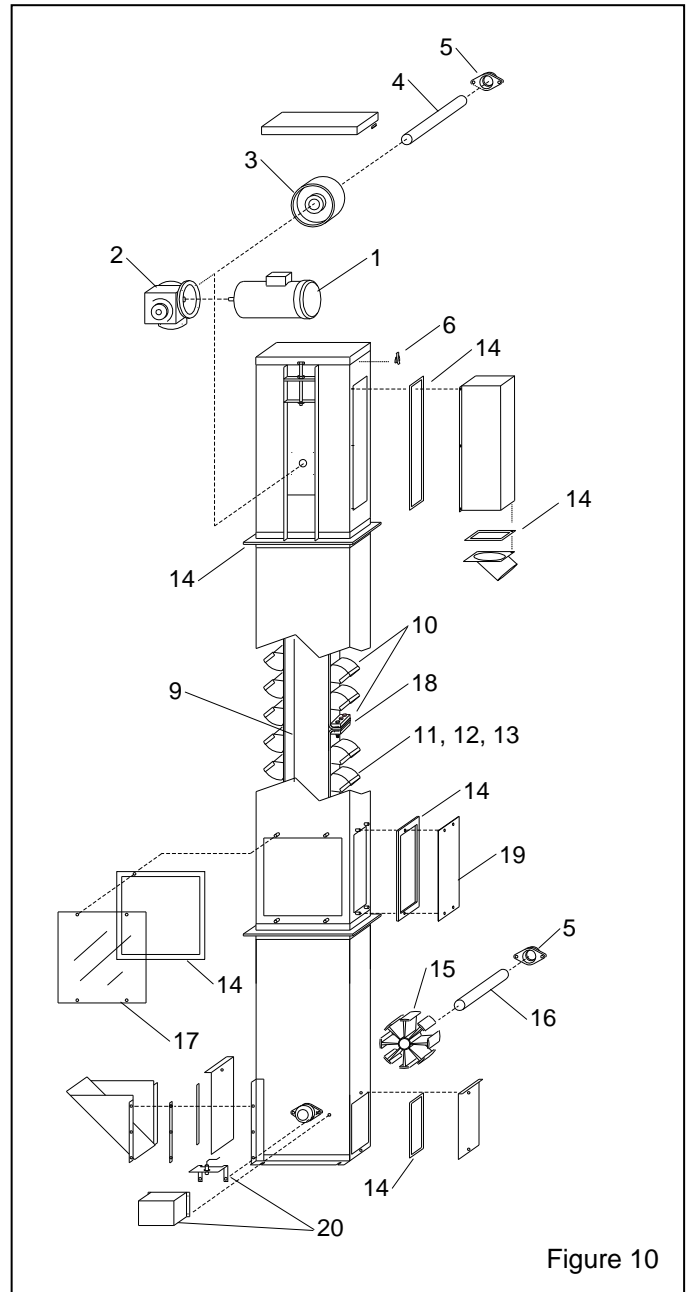

Figure 10
**9.1 Bucket Elevator Assembly, Figure 10**